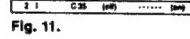

Fig. 11.
- c Press OK. The «SEARCH» position is highlighted and the selected channel is now stored. (See Fig. 11.)